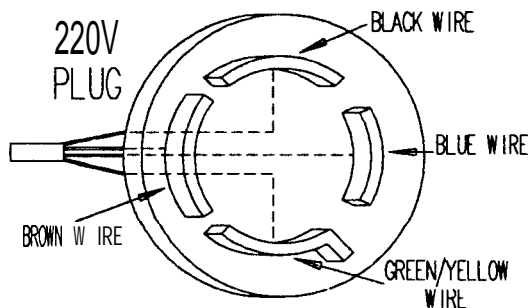

Figure 2 A/C Plug Color Code
25. Install the AC Plug on the end of the power cord following the instructions in figure 2.